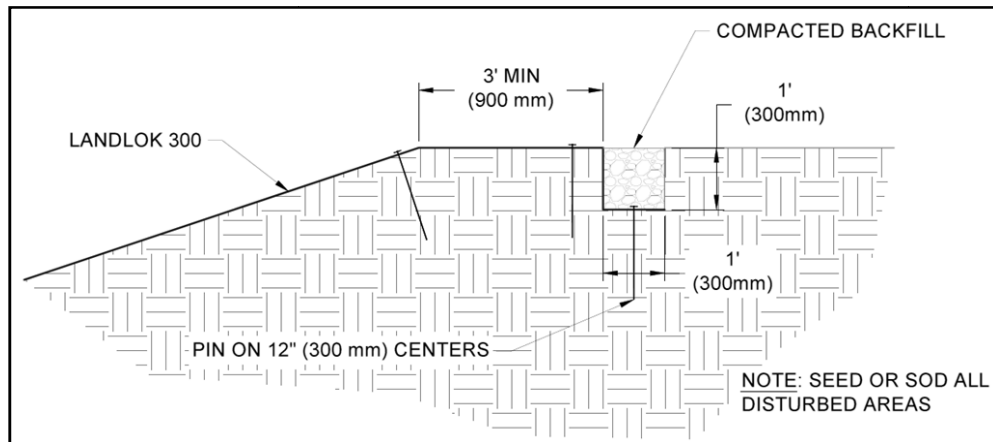

Figure 2: Crest of Slope (COS) Trench
4. Excavate a Crest of Slope (COS) trench a minimum of 12 in x 12 in (300 mm x 300 mm) along both sides of the installation. Each COS trench must be a minimum of 3 ft (900mm) over the crest of the bank, preferably on a relatively flat surface (Figure 2).